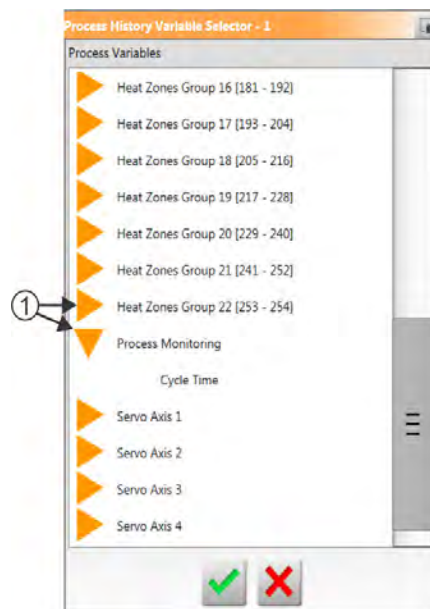

Figure 11-5 Process History Variable Selector Dialog
2. On the Process History Variable Selector dialog box, touch the minimize/maximize arrow. Refer to Figure 11-5.